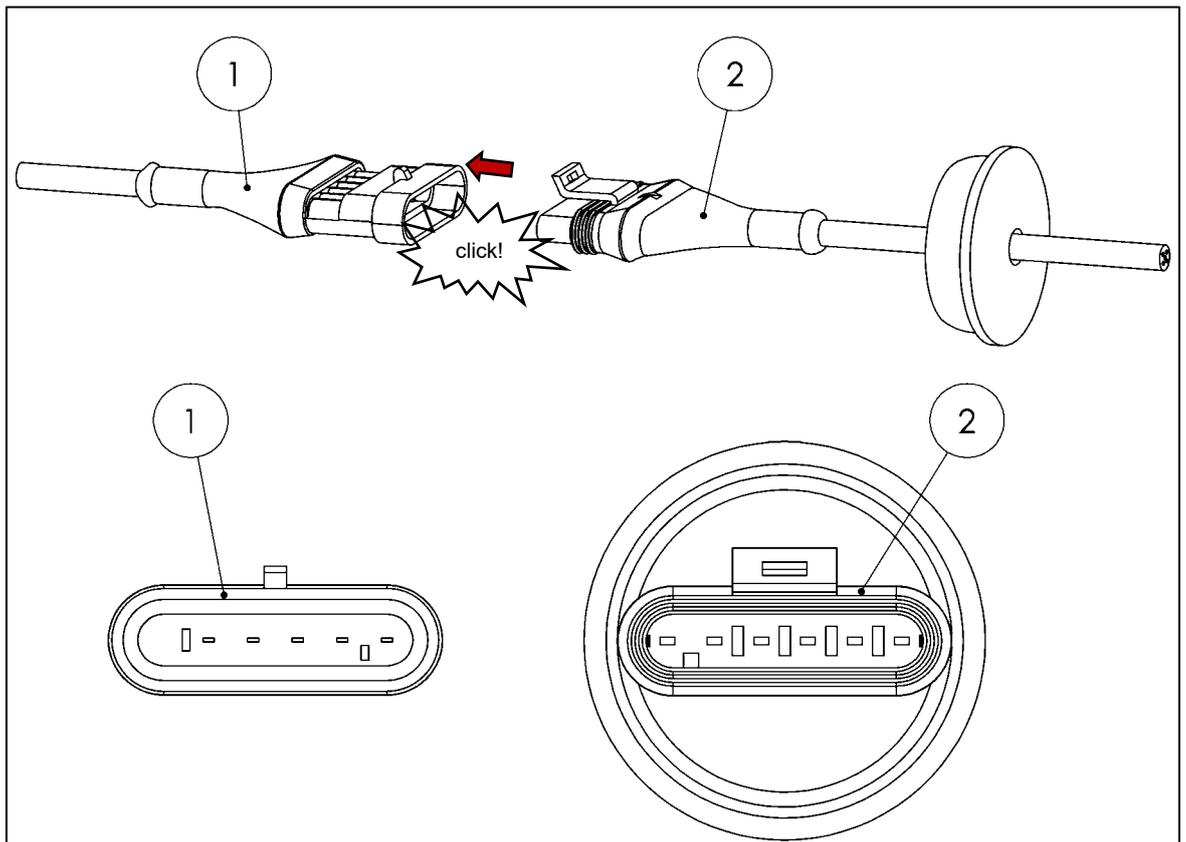

Figure 62
- Connect the platform cable connector (1) to the control unit connector (2) (see Fig. 62).